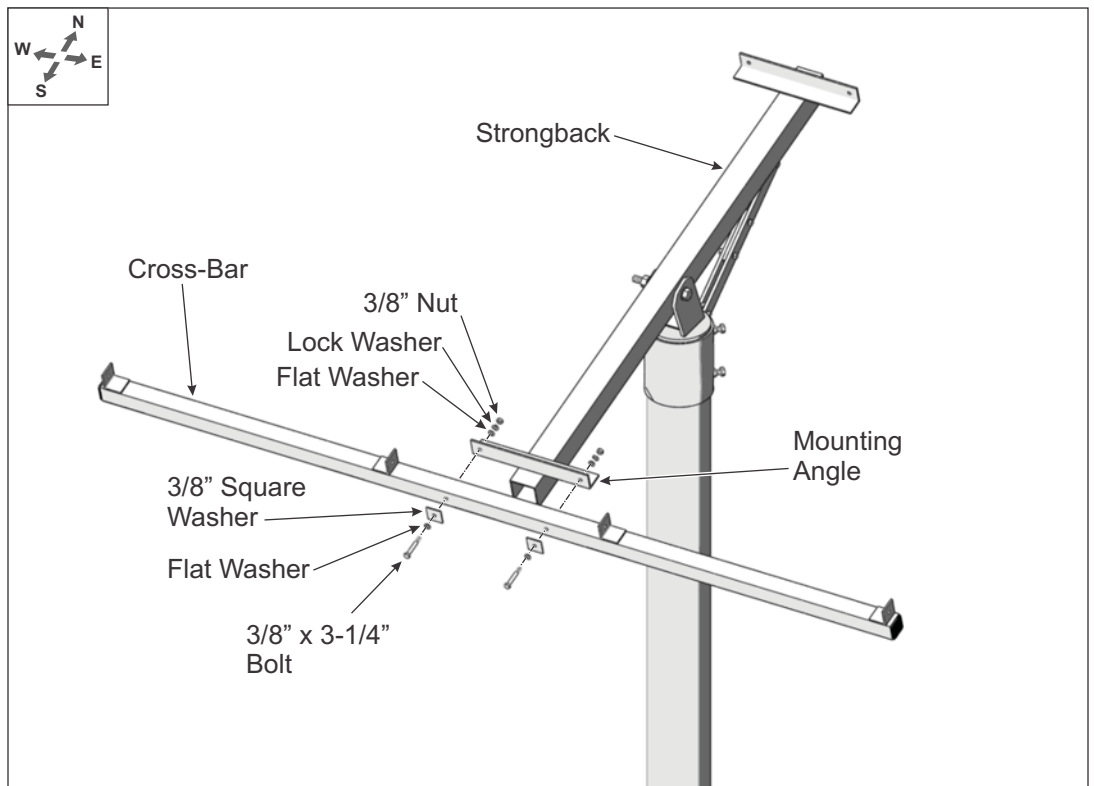

Figure 3-2: Installing Cross-Bars on the Strongback
- A. Position the Cross-Bar on the outside of the mounting angle of the Strongback. Align the mounting holes and secure using 3/8” flat and square washers along with the 3/8” x 3-1/4” bolts and lock washer placing the square flat washer against the Cross-Bar. Tighten hardware and **Torque to 30-32 ft.-lbs.** (See Figure 3-2)